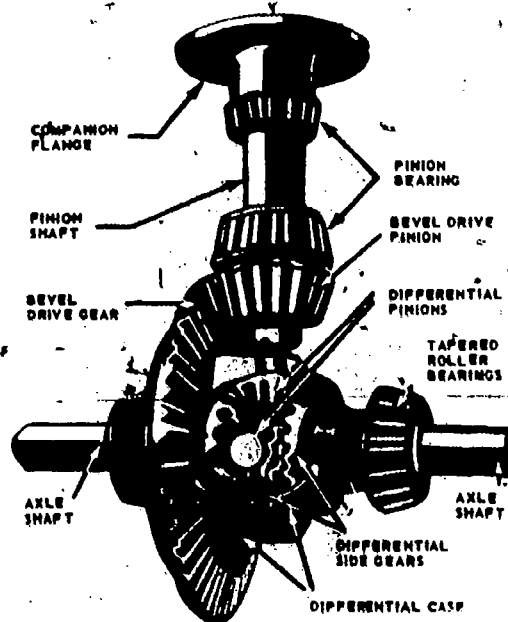

Fig 2-39. Differential with part of case cut away.
- (6) **Differential (fig 2-39).** The differential, or the rear end as it is generally called, is enclosed and attached to the axle housing. It changes the direction of the power flow 90° and transfers the power to the axles. It divides the power to the two driving axles. Due to its construction, it also permits a difference in rotational speeds of the axles. It permits the wheel with the least resistance to spin or rotate faster.